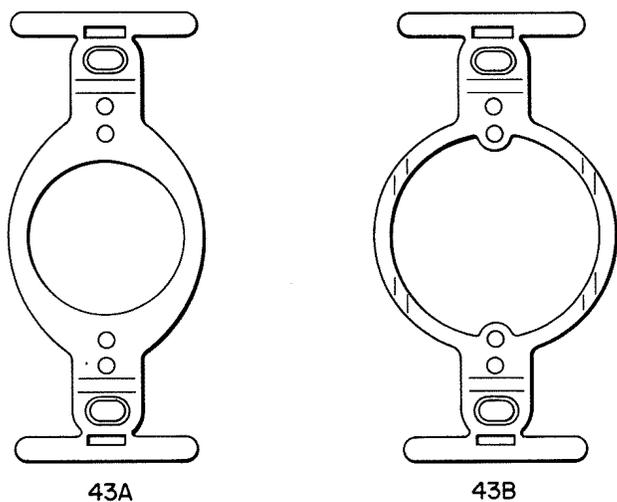

Fig. 24 — 43-Type Brackets
**3.01** The 43-type brackets (Fig. 24) are intended for use in mounting jacks in electrical outlet boxes. The 43A bracket is used as a component of the 497A and older 550A jacks and can be used to mount the 493A (MD) and 548A jacks. The 43B bracket is a component of the 547B and newer 550A jacks. It also may be used to mount the 493A (MD) and 548A jacks.